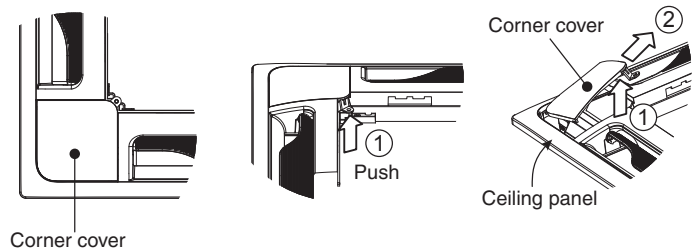

Fig. 7-17
- (2) Removing the corner cover.
- a) Remove the screws on the corner and slide the latches in the direction of the arrow ① to disconnect the hinges (3 locations). Then, remove the air-intake grille in the direction of the arrow ②. (Fig. 7-17)